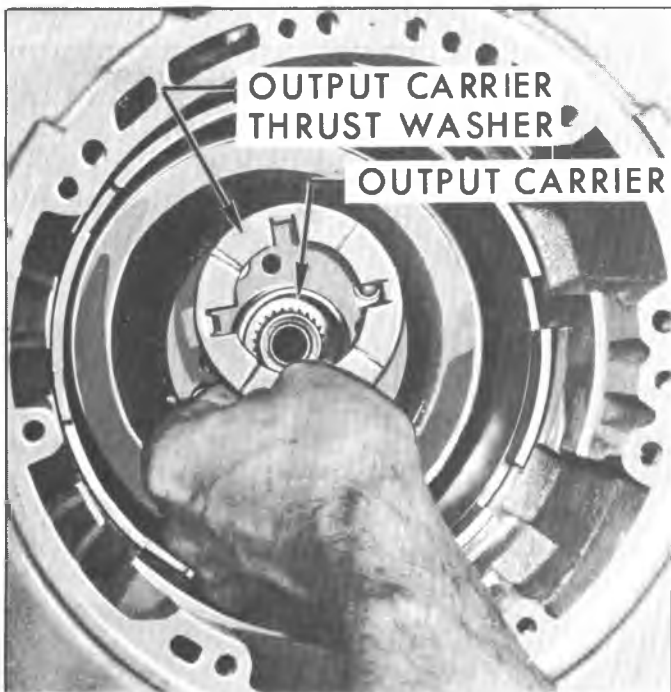

Fig. 35N--Removing Input Ring Gear Rear Thrust Washer
10. Remove input ring gear rear (output carrier) thrust washer (fig. 35N).